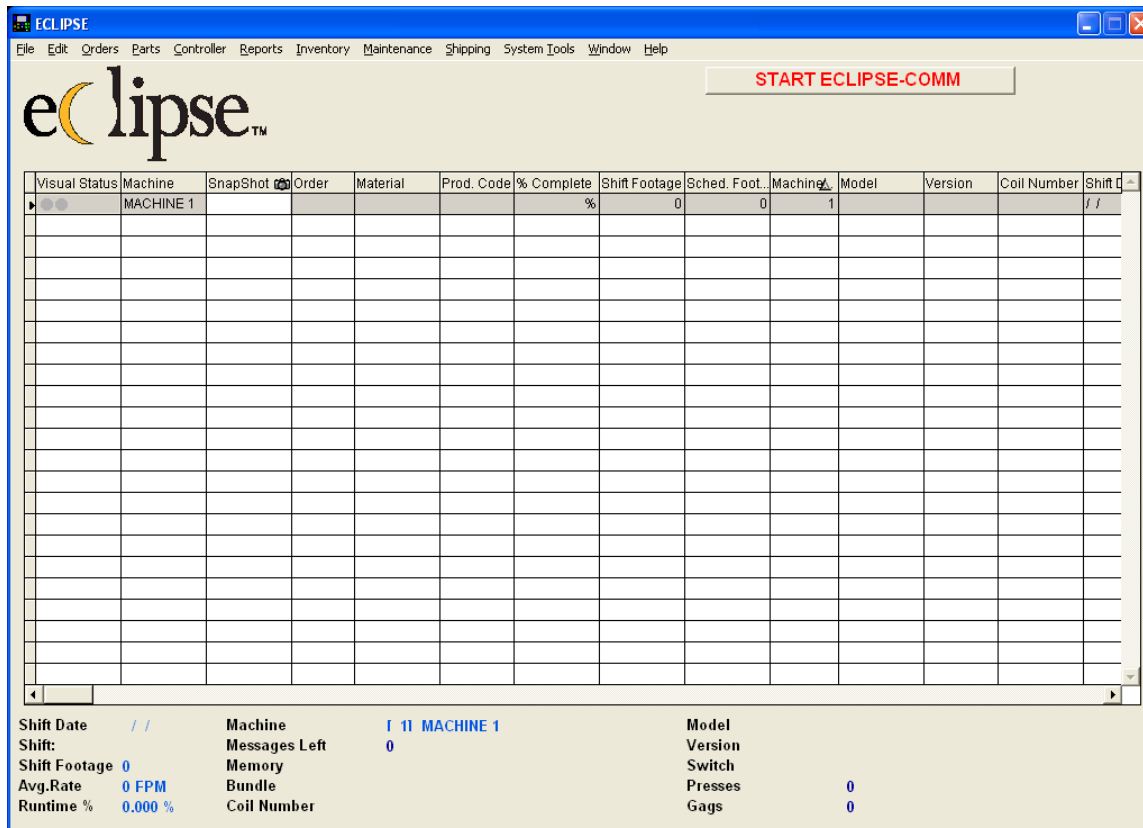

Figure 6: The Eclipse window
- If it's not communicating, both circles are grey (see Figure 6).